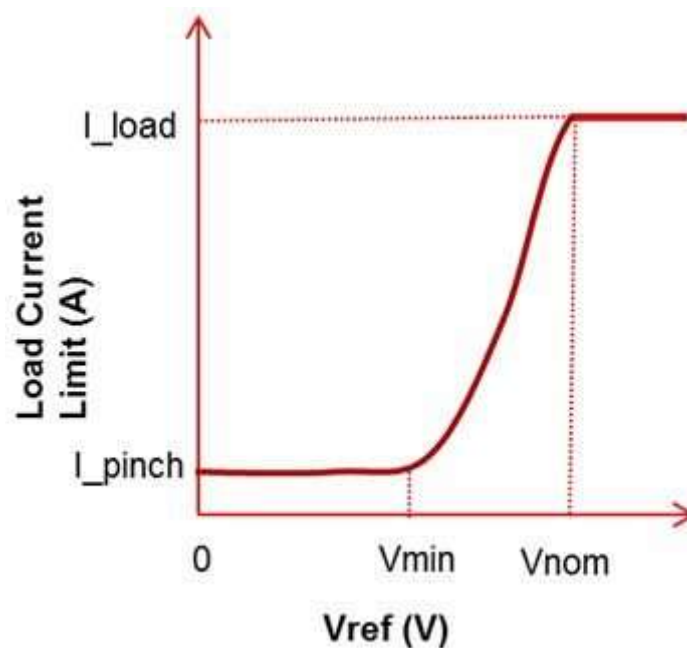
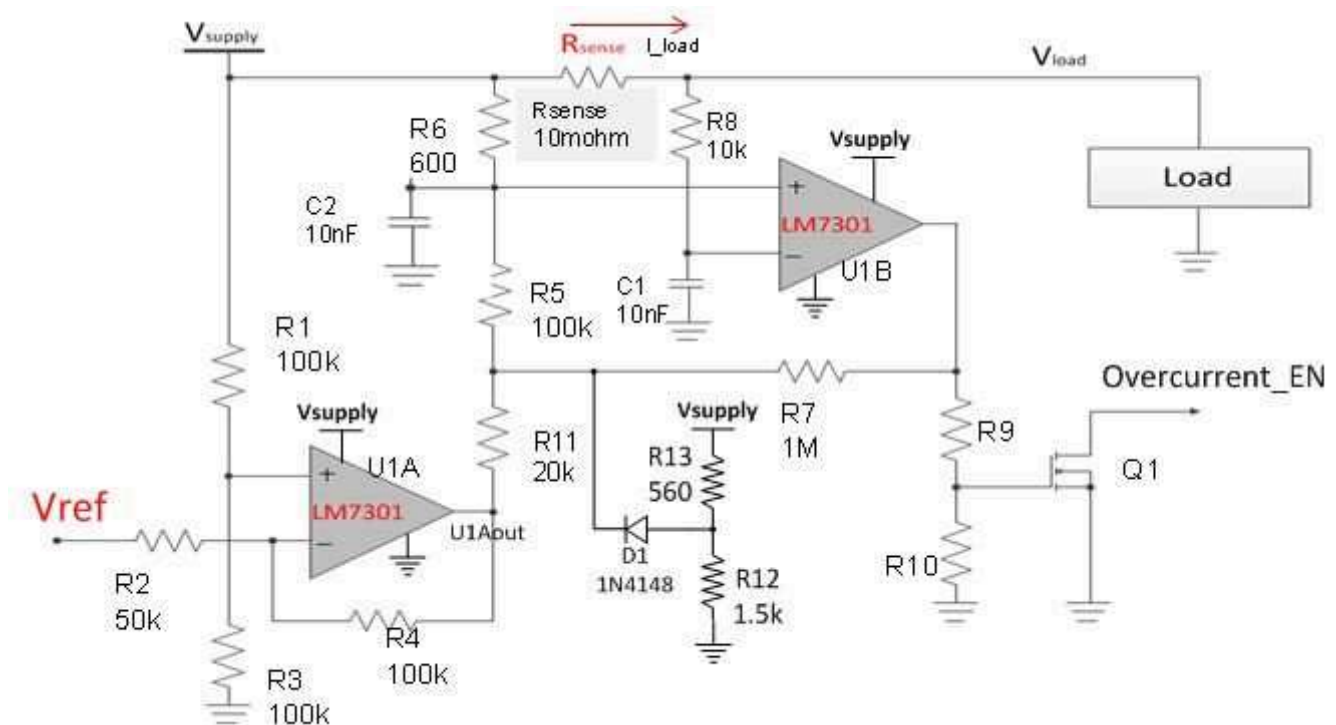

Figure 1: Load current is a variable function of another supply voltage (V_{ref})
Figure 2: Variable current-limit detector
“Variable” refers to the benefit of having a nominal “operating” power-supply load-current limit (I_{load}) that drops on demand. An example would be if you needed to throttle the main system’s power-supply current limit in a transient power-up condition before one or more other supplies have reached their nominal voltage. In Figure 1, if V_{ref} (which represents another monitored power supply) is below nominal (V_{nom}), the load current drops for safety or reliability reasons. With V_{ref} less than V_{min} , the load current pinches off (I_{pinch}).
Figure 2 uses the versatile LM7301 rail-to-rail input and output op amp to implement the load current limit profile shown in Figure 1. The circuit monitors the V_{supply} current to the load. When the current
- exceeds the limit determined by the V_{ref} voltage, it produces an output that turns Q1 on and can trigger a protection mechanism. The op amp's large operating supply voltage (1.8V to 32V) simplifies the design task by extending the range of usable supply voltages (V_{supply}) monitorable for load current. In addition, a full-range output swing eases the output drive (on/off) to the gate of a protection transistor or MOSFET (Q1 in Figure 2). Since the input common-mode voltage range extends from below ground to above V_+ , you can tie the high-side sense resistor (R_{sense}) directly to the op amp inputs.
U1A, which monitors V_{ref} , must have an output swing close to V_{supply} in order to allow the kind of behavior depicted in Figure 1, where a reduced V_{ref} pinches off the allowable load current. Furthermore, you could use the same op amp as an amplifier (U1A) or comparator (U1B) to reduce the bill of materials (BOM).
The circuit operates by passing all of the load current through a single sense resistor (R_{sense}), with U1B monitoring both terminals. Enough load-current flow will cause the U1B output to switch high toward the V_{supply} rail, which then could turn on a protection device such as Q1. U1A monitors V_{ref} ; its output changes the voltage that appears on the non-inverting input of U1B. A low V_{ref} voltage raises U1A output and reduces the I_{load} value that triggers the U1B output high (fault condition), and vice versa. Diode D1 turns on when U1A detects V_{ref} approaching V_{nom} and prevents any further increase in I_{load} with increasing V_{ref} voltage (see Figure 1, where I_{load} is maintained for $V_{ref} \geq V_{nom}$). The hysteresis resistor R7 works with other external resistors to set the amplitude of the hysteresis, which introduces a difference between the load current that initiates overcurrent and the load current that resets overcurrent. This difference in currents ensures that the circuit does not enter an unstable condition where the U1B output chatters back and forth.
Here are some of the governing equations that make it easier to modify the circuit for different operating conditions. I've also included an example operating condition to allow numerical results using the component values shown in Figure 2.
To find the Vmin in Figure 1:
To find I_{pinch} in Figure 1, plug the information from Equation 5 into Equation 2:
Increasing Vref beyond Vnom is clamped by D1 such that the load-current limit remains constant. The value of Vref when this occurs has to do with the voltage divider set by R12 and R13. With the values shown in Figure 2, the D1 anode is set to 8.7V and starts conducting when Vref ≥ 5V, thus establishing Vnom=5V. The voltage divider resistor values should be low enough to supply the current to keep D1 forward-biased with U1A_{out} saturated to ground.